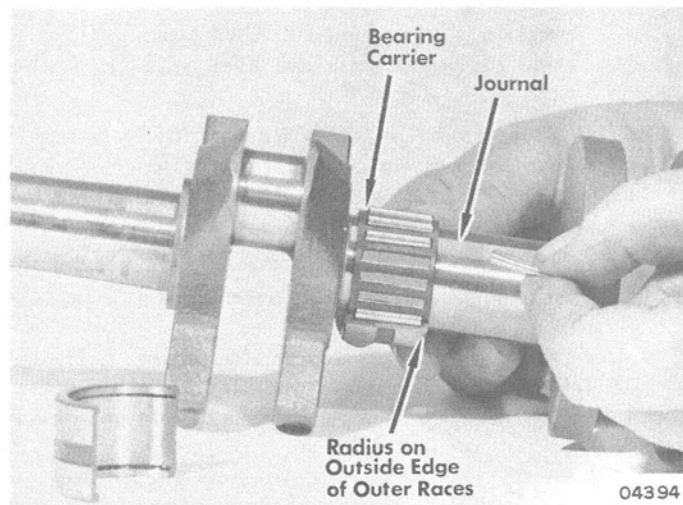

Figure 5. Installing Bearings in Carrier on Journal
- a. Coat crankshaft center main bearing journal with a small amount of New Multipurpose Lubricant (C-92-49588). (Figure 5)
NOTE: Roller bearings must be placed in bearing carrier halves after halves are assembled to crankshaft journal. Roller bearings will not pass thru bearing carriers as they do on connecting rod roller bearing assembly. (Figure 5)
NOTE: Outer race halves have a greater radius on one outer edge. This radius MUST FACE each other when outer races are around roller bearing. (Figure 5)